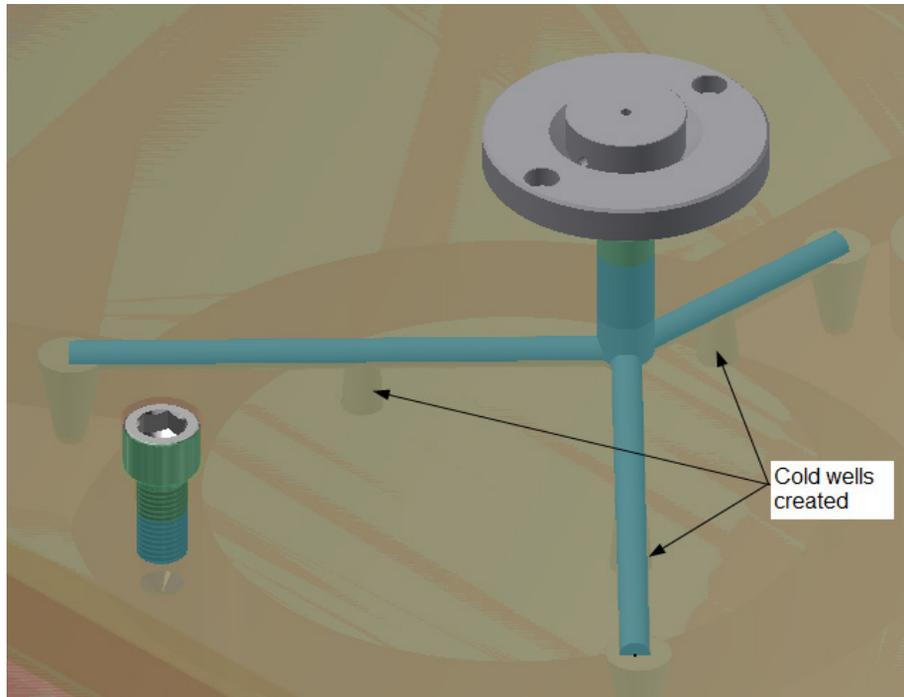

Figure 19-73 The cold well created
3. Similarly, create more cold wells on each runner, refer to Figure 19-73.